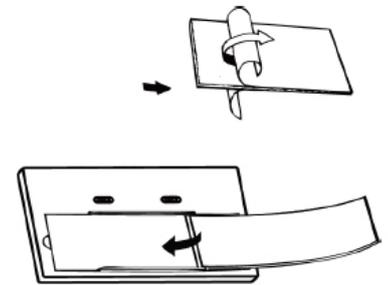

Fig.7
- b. The new inner cover lens is installed after the protective film is removed. Insert the lens' leading edge under the hooks on either side of the cartridge. Bend the lens in the middle and slide into place under the hooks (Fig. 7).